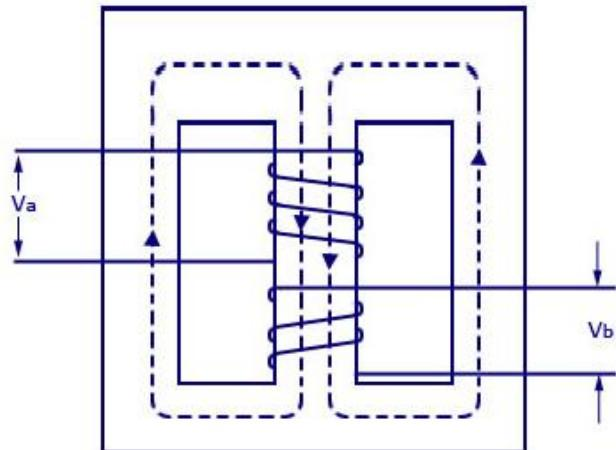

Fig.3.3
7. For large, the cross section of the core should be either square (or) stepped as shown in the fig.3.3